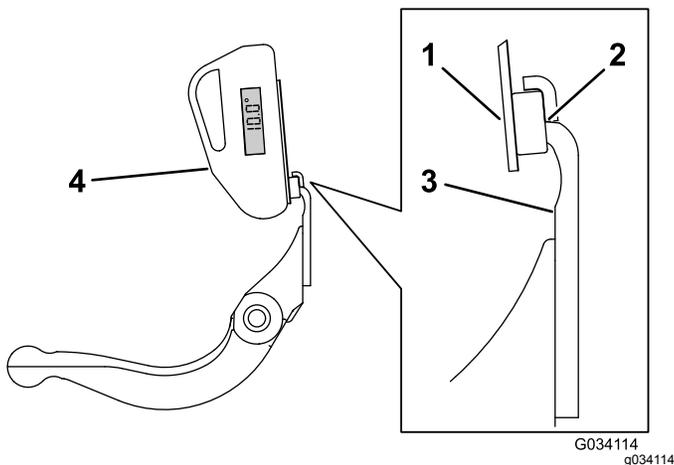

**Figure 66**
1. Place the angle indicator on the bottom side of the bedknife as shown in Figure 66.